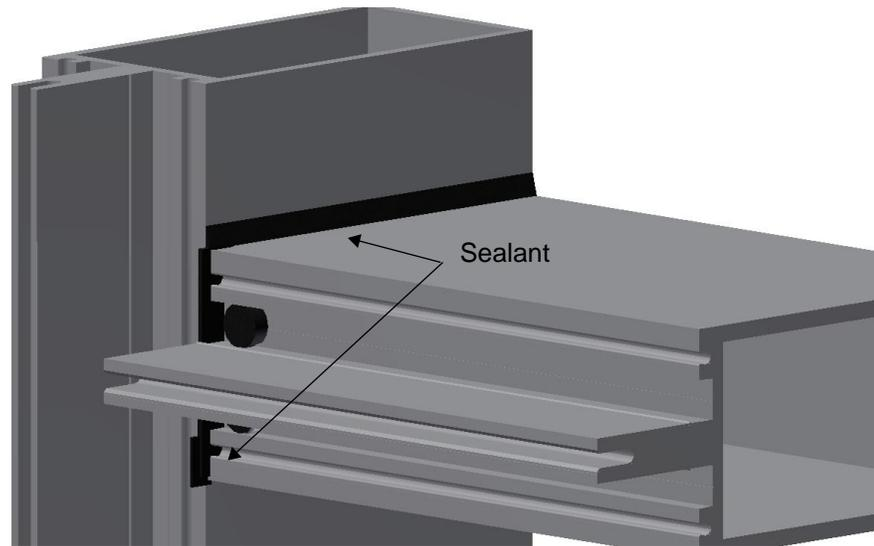

Figure 12: Seal the joints between verticals and horizontals.
- Seal the joints between verticals and horizontals, as shown in Figure 12.